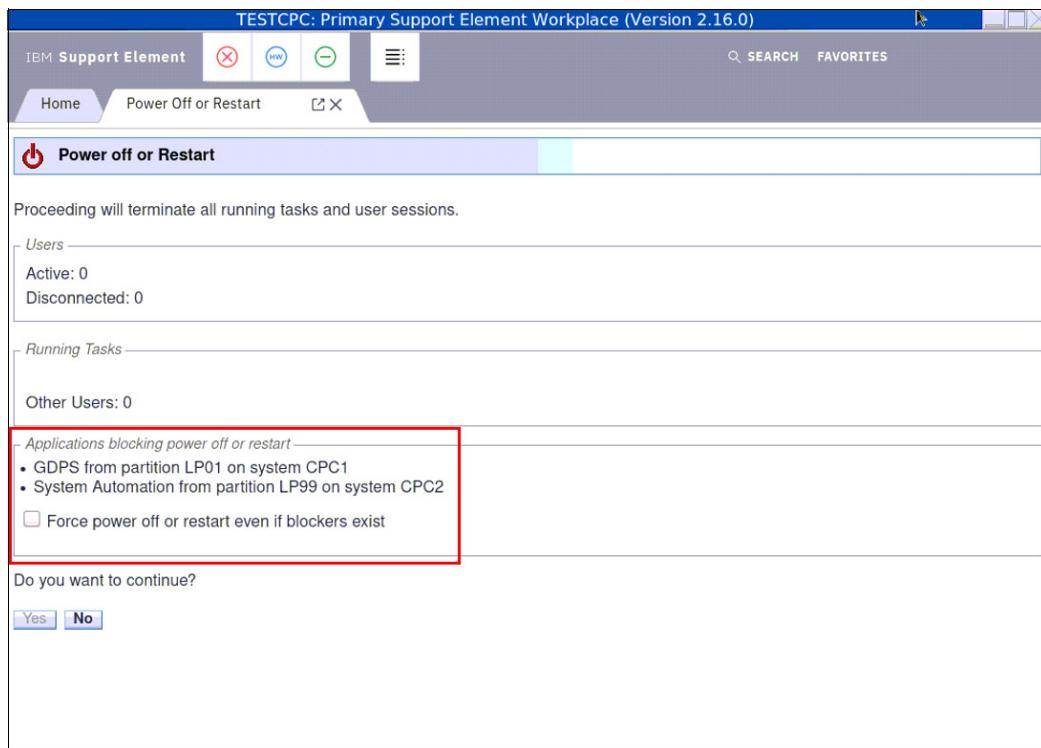

Figure 10-5 New information/question for SE power off or restart regarding GDPS or SA
With IBM z16, the SE and the BCPii for GDPS and System Automation (SA) features an improved communication to not disturb important tasks on each side. For example, if you want to restart an SE and GDPS or SA is performing an important task, the restart window prompts you to confirm that you want to force the restart, as shown in Figure 10-5 on page 413.